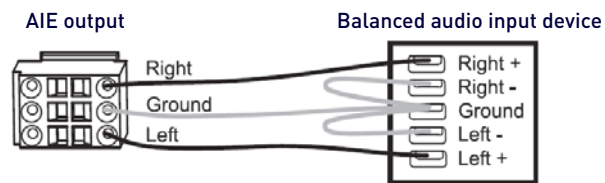

FIG. 94 Standard wiring from AIE to balanced audio input device
- Wire the AIE connector as follows: AIE L to device L+; AIE R to device R+; AIE ground to device R-; and a jumper from device R- to device L- (see FIG. 94 below).
FIG. 94 indicates the standard way to wire an AIE connector to a balanced audio input device: